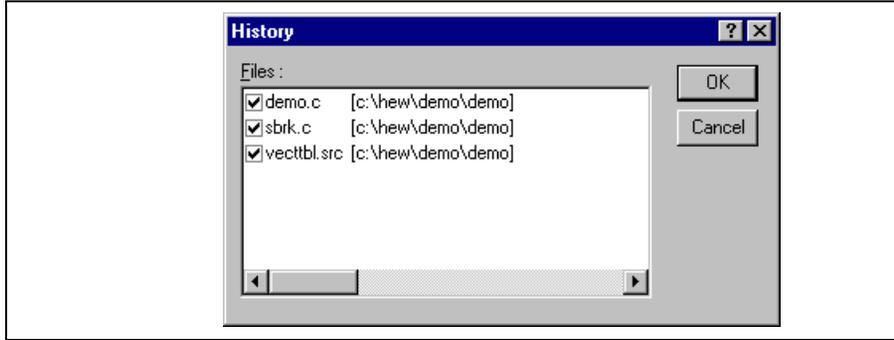

Figure 8.15: Command Prompt Dialog (Example)
If this check box is set then, before any version control commands are executed, a dialog is displayed. The dialog is titled "MERGEFORMAT" (figure 8.15) which lists all of the files involved in the operation. Files may be deselected by clearing the associated check box. Clicking "OK" will apply the command to each of the selected files. Clicking "Cancel" will abort the operation.
1. Select [Version Control->Configure...]. The dialog shown in * MERGEFORMAT figure 8.15 is displayed.